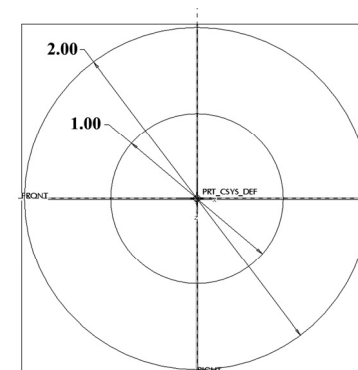

Fig. 2.11.
11. Modify the dimensions.	<p>Pro ENGINEER automatically places dimensions for the circles. A good practice is to modify smaller dimensions first.</p> <p> → Double click the inner diameter dimension → 1 → ENTER → Double click the outer diameter dimension → 2 → ENTER</p> <p>Pro ENGINEER automatically regenerates the section.</p> <p>Refer to Fig. 2.11.</p>